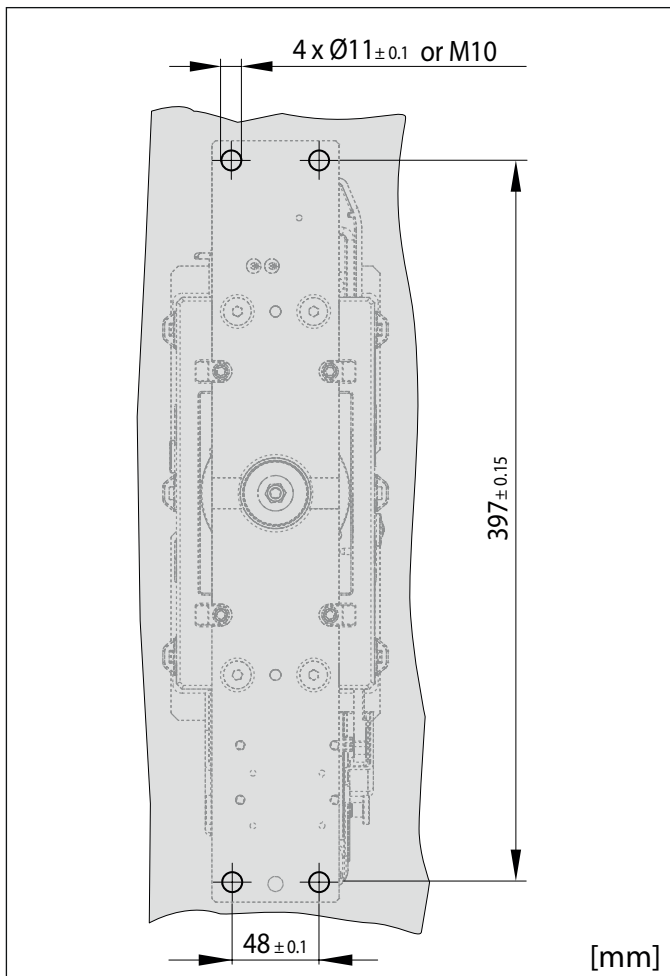
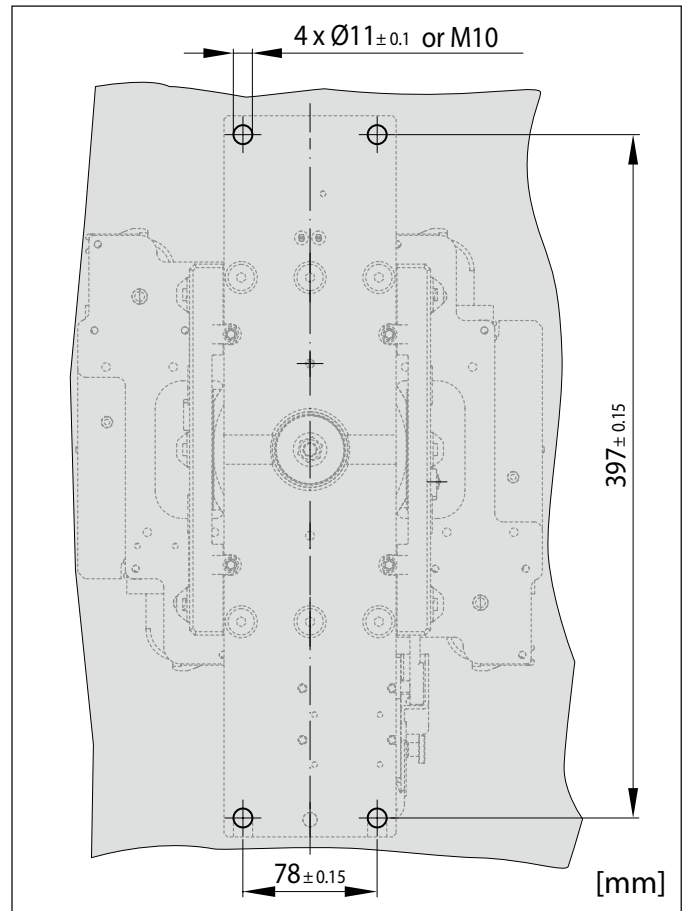

Fig. 5: CA 1115/CA 1130: Dimensions and layout of mounting holes (dimensions not to scale)
Fig. 6: CA 1315/CA 1330: Dimensions and layout of mounting holes (dimensions not to scale)
- ▶ 4 mounting holes must be prepared on the mounting plate or mounting frame according to the following dimensional drawings (*Fig. 5* and *Fig. 6*).